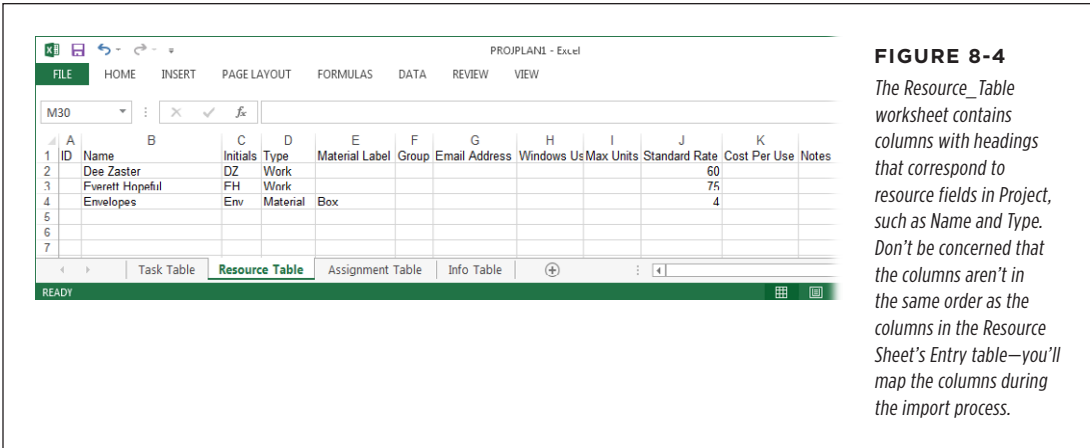

FIGURE 8-4
3. At the bottom of the Excel window, click the Resource_Table tab, shown in Figure 8-4.